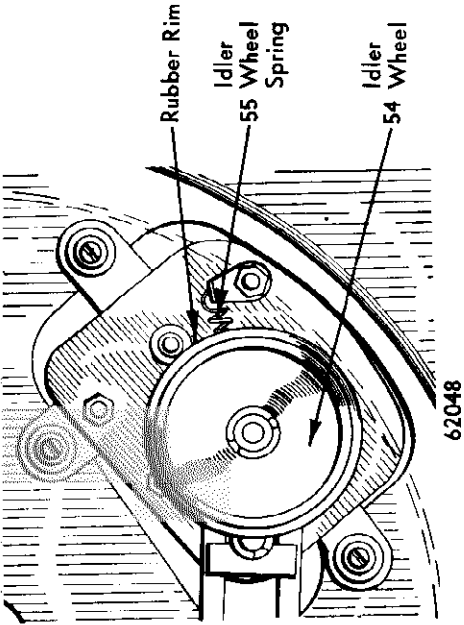

FIG. 27.
2. During playing cycle idler wheel slide should move freely and its spring tension must be positive so that idler wheel maintains constant contact with turntable rim and motor shaft. See fig. 27.
- 3. Idler wheel mounting and slide should move freely. Spring tension on slide must be maintained. Oil slide if necessary. (See fig. 27.)